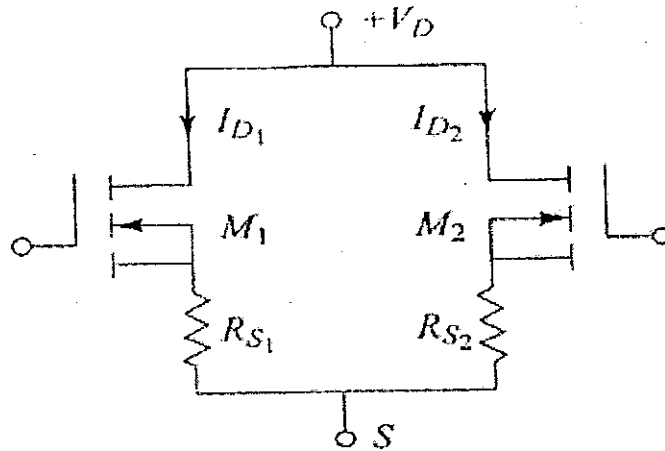

Figure 2.1
- (c) Two power MOSFETs are connected in parallel as shown in Figure 2.1 and carry the total current $I_T = 20A$. The drain-to-source voltage of MOSFET, M_1 is $V_{DS1} = 2.5V$ and that of MOSFET, M_2 is $V_{DS2} = 3V$. Calculate the drain current of each MOSFET and differences in current sharing if the current sharing series resistance for R_{S1} and R_{S2} are 0.3Ω and 0.2Ω , respectively.